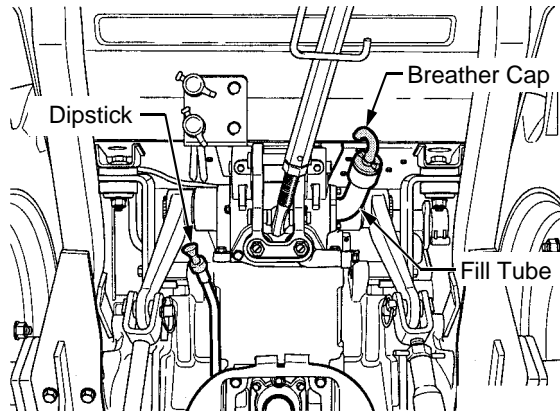

Figure 59
- Locate the transmission dipstick on the top/rear of the transmission at the back of the tractor. See Figure 59.
- Clean the area around the breather cap and fill tube on the back of the transmission to prevent debris from entering the transmission. Then turn the cap counterclockwise to unscrew from the oil fill tube. Refer to Figure 59.
- Clean the area around the transmission dipstick and breather cap to prevent debris from entering the transmission. Refer to Figure 59.